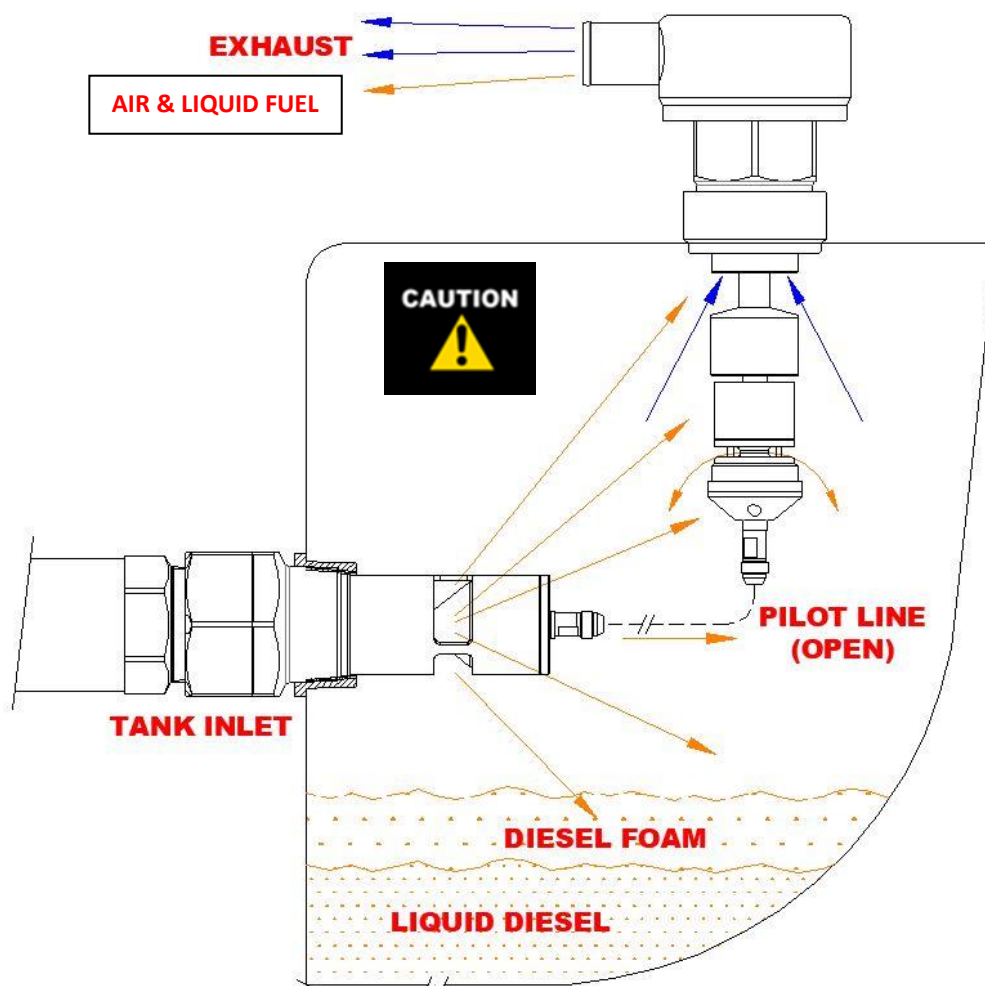

Figure 12 - Fuel Discharge Impacting Level Sensor
- a. Figure 12 illustrates the Valve discharge impacting the Level Sensor or Tank Vent(s). This situation should be avoided as it may cause;